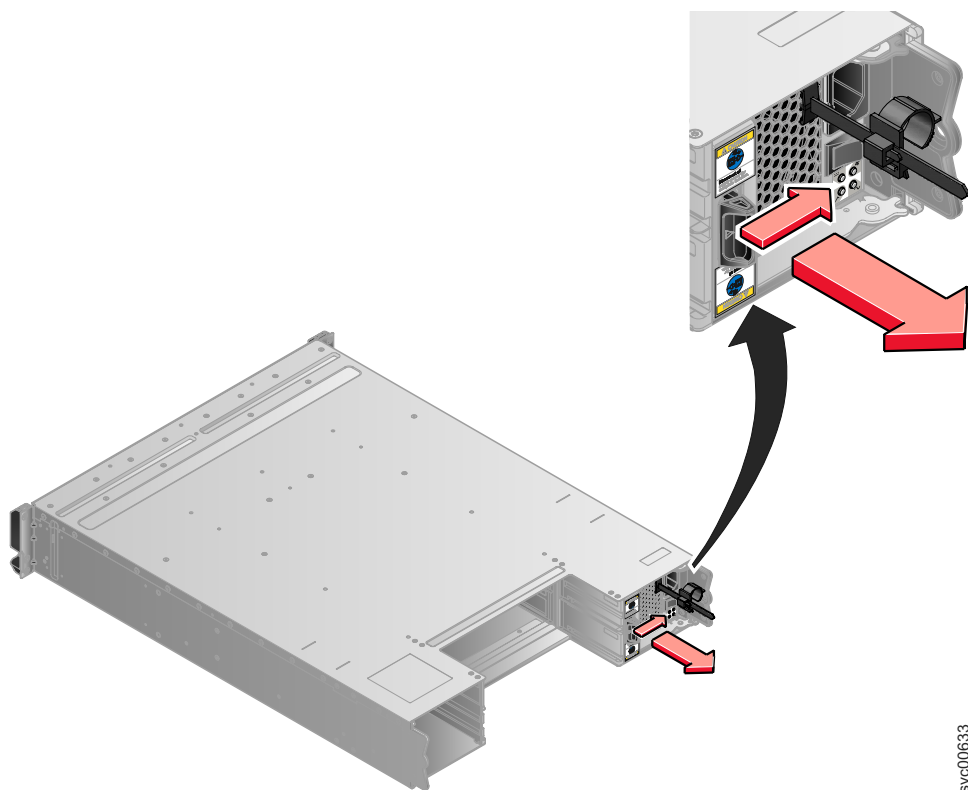

Figure 31. Directions for lifting the handle on the power supply unit
- a. Depress the black locking catch from the side with the colored sticker as shown in Figure 31 on page 98.